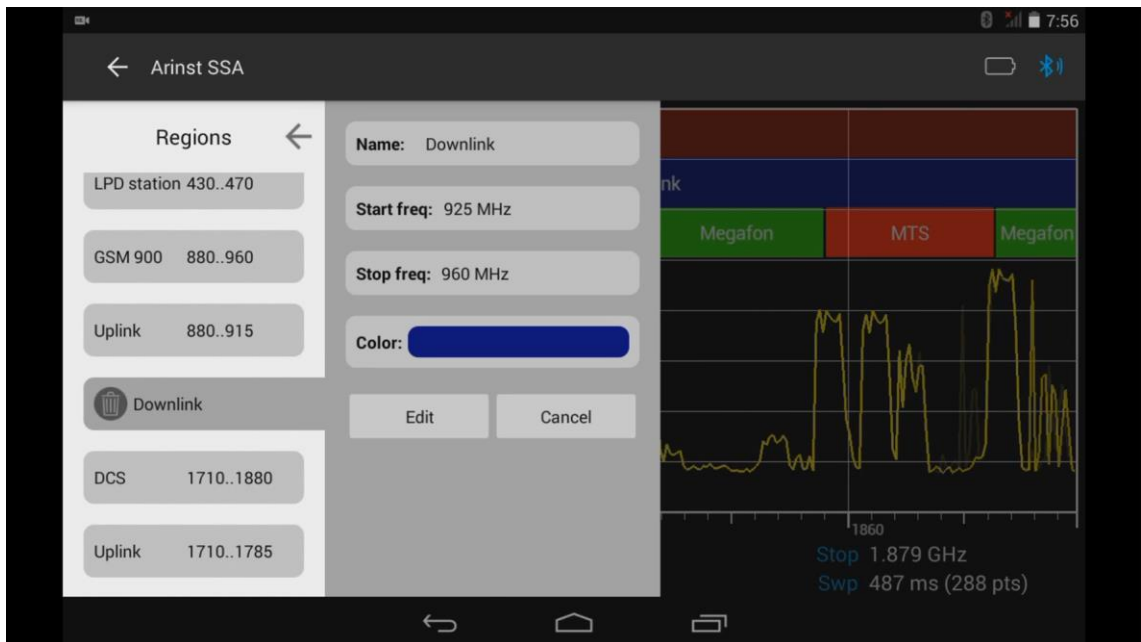

Figure 35 – Example of displaying and editing the set frequency range
8.5.11 Figure 35 shows an example of displaying the name, color marking, and the set frequency range. To change the name, color marking or frequency range, click **Edit**, to cancel, click **Cancel**.